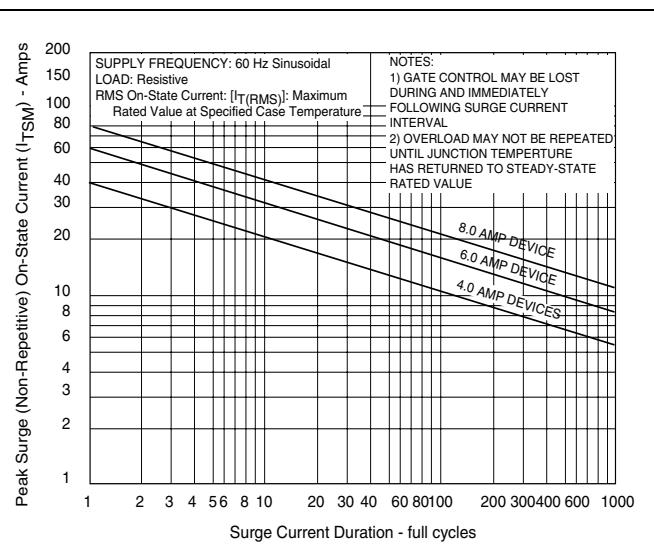

Figure 1.2 Peak Surge Current vs Surge Current Duration
- (1) For either polarity of MT2 with reference to MT1 terminal.
- (2) For either polarity of gate voltage  $V_{GT}$  with reference to MT1 terminal.
- (3) See definition of quadrants and gate characteristics.
- (4) See Figure 1.2 for surge rating and specific duration.